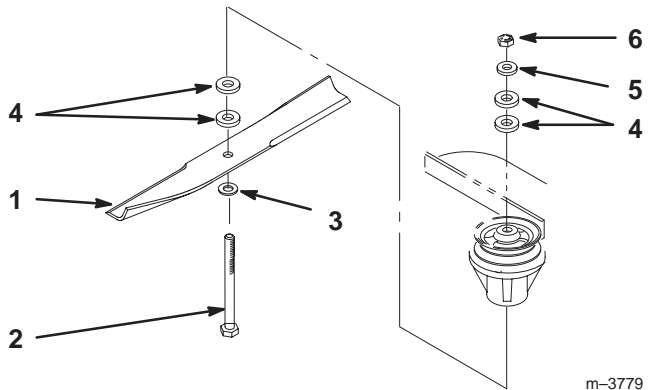

Figure 26
3. Hold the blade bolt and remove the nut. Slide the bolt down through the spindle, and change the spacers as needed (Fig. 26).
4. Insert a bolt, add extra spacers, and secure them with a thin washer and a nut (Fig. 26).